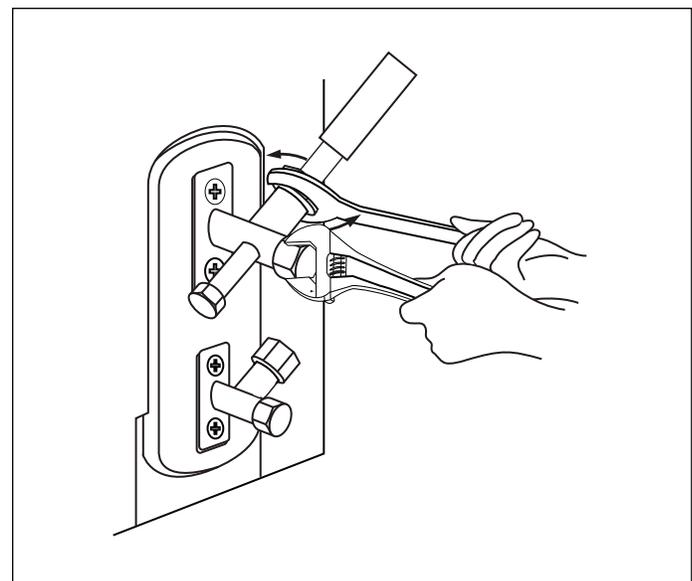

Figure 36
4. Using a wrench, grip the body of the valve. Do not grip the nut that seals the service valve. (See Fig. 36)